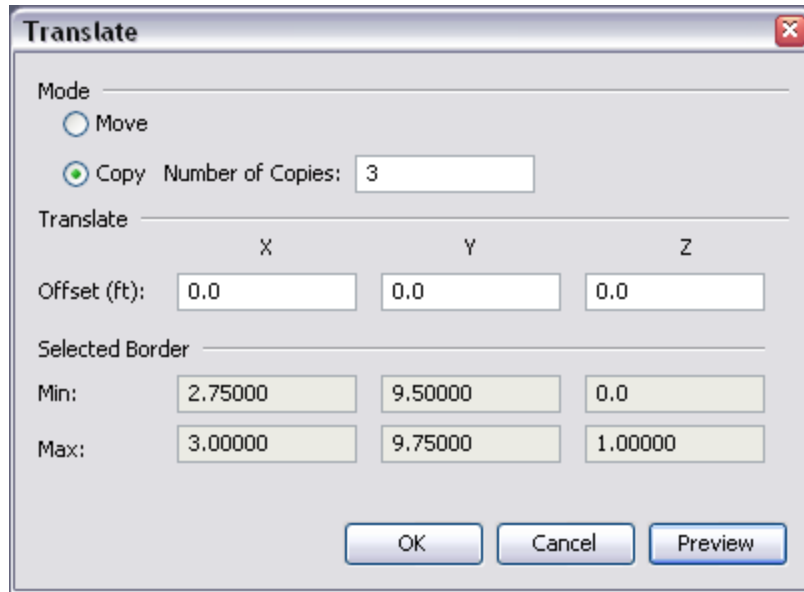

Figure 111. The move dialog
3. This will show the Move dialog, Figure 111.